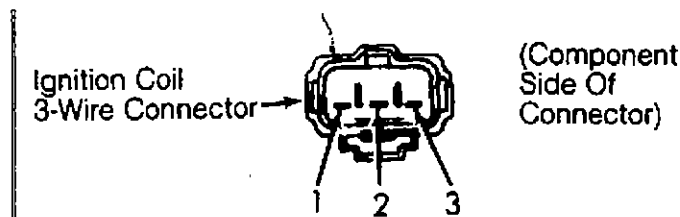

Fig. 1: Identifying Ignition Coil Connector Terminals (Legacy)
1) Disconnect 3-wire connector from ignition coil assembly. Using an ohmmeter, check primary resistance between terminals No. 1 and 2 for one coil. See Fig. 1.